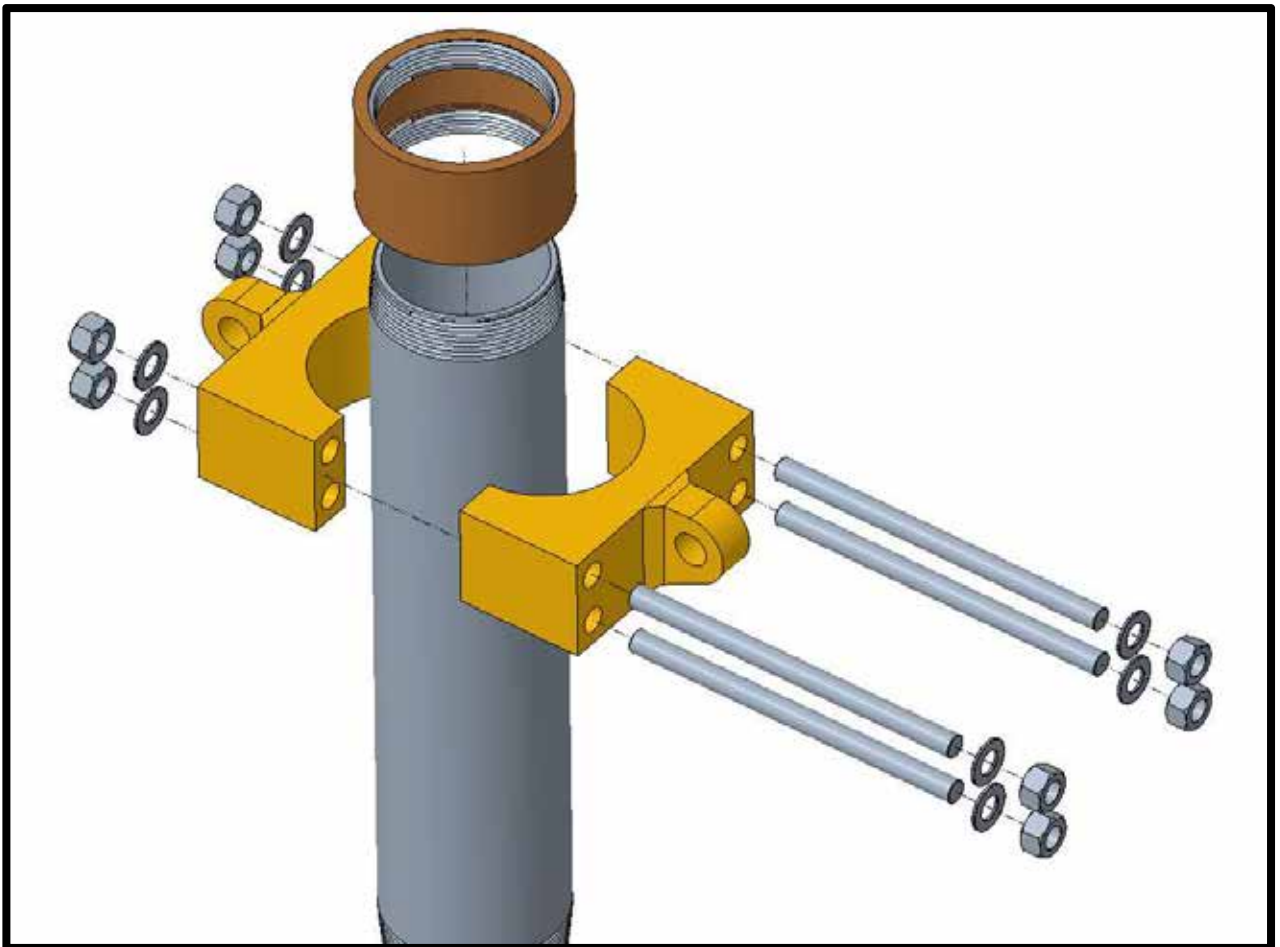

Figure 13: Be sure to install the Lifting Clamps (3) 4" below the threaded coupling.
1. Push the Lifting Clamps (3) together approximately 4" below the threaded coupling. The fit of the lifting clamps should be tight on the column pipe with a friction fit.
2. Install the Studs (7), Washer (12) and Nuts (8) making sure to torque to recommended values based on fastener diameter. See the Appendix for the recommended Torque values based on Carbon Steel Fasteners.
3. Inspect the assembly to verify that the clamp is securely fasten against the riser pipe and all bolting has been properly fastened. See Figures 13, 14, and 15 for an overview of how the parts will be assembled.